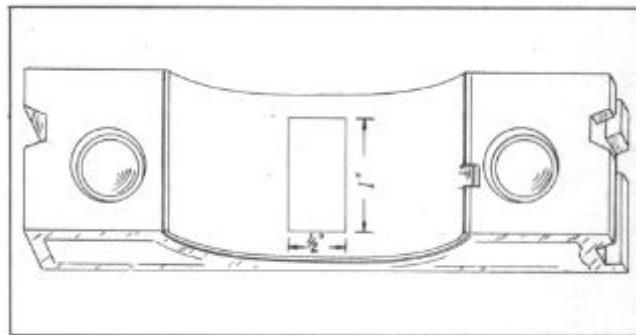

FIGURE 4
4. If crankshaft turns too freely, check for loose bearings working one bearing at a time by placing a piece of brass shim stock .002" thick, 1/2" wide and 1" long between the bearing face and the crankshaft journal, Figure 4.